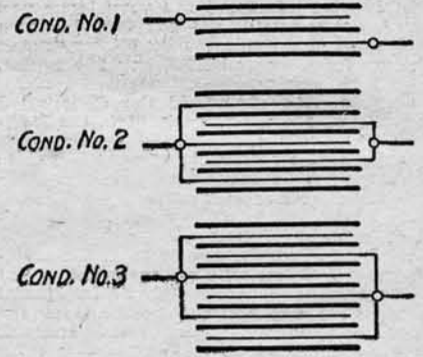

Fig. 1
A series of condensers if connected by a switch lever will give the amateur experimenter much more satisfaction than a single fixed condenser. To construct the series as shown in the diagram it is necessary to make three condensers as in Figure 1. Condenser No. 1 has two plates of conducting material, copper, zinc or tinfoil, separated by three sheets of insulating material, bakelite, formica,
- Hard rubber spools as shown in Figure 1.